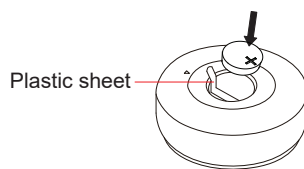

fig.2
---Place the plastic sheet against the edge of the battery house and put CR2032 battery into it, the positive side of battery (+) should be upward (fig.2).